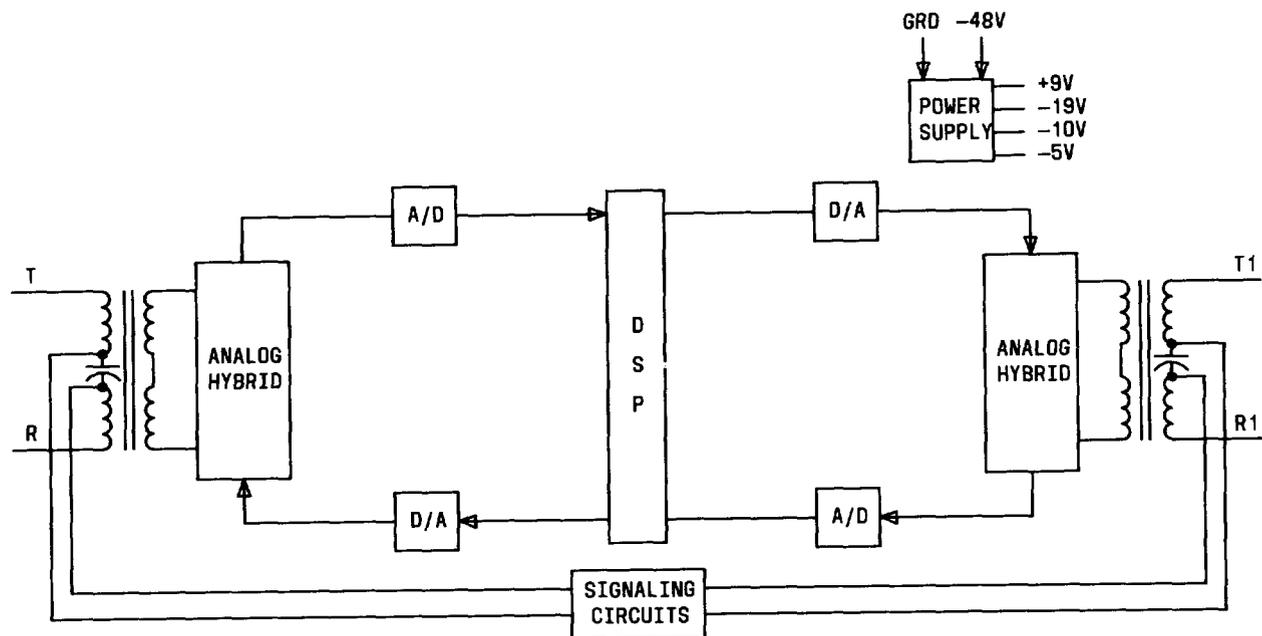

Fig. 1 — J99343PR 2-2 Wire Repeater—Block Diagram
2.02 A block diagram of the J99343PR repeater which interfaces analog with digital electronic circuitry is shown in Fig. 1. This repeater provides continuous automatic balancing techniques which are used to cancel the return echo signal regardless of the line condition or impedance changes. To accomplish this feature, the input analog signals are converted to digital signals which are analyzed by a DSP (digital signal processor). Unique software is programmed into the DSP to do gain, equalization, and echo canceling.